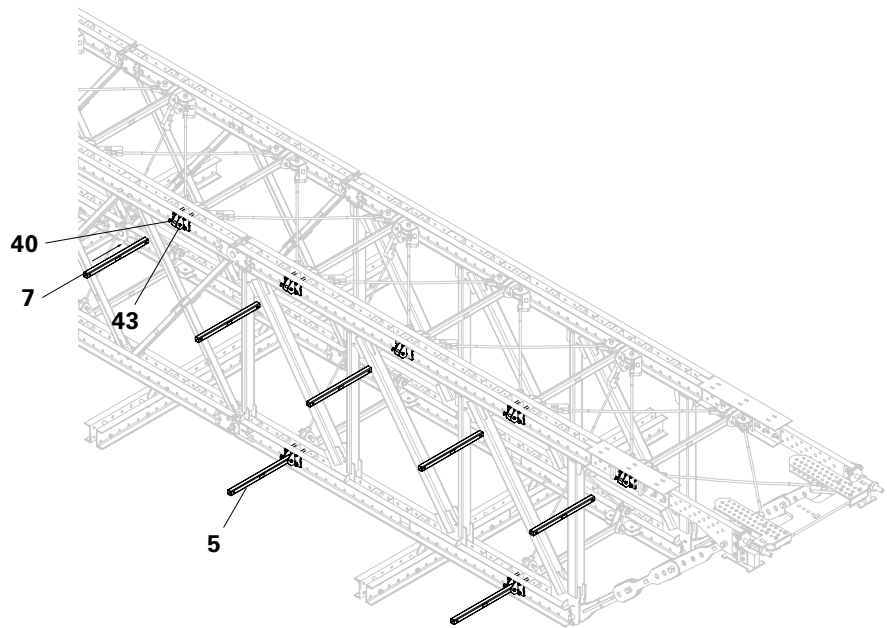

Fig. A2.20
1. Fix Coupling Posts (7) to the Coupling Shoe (5) using fitting pins (43) and secure with cotter pins (40). (Fig. A2.20)